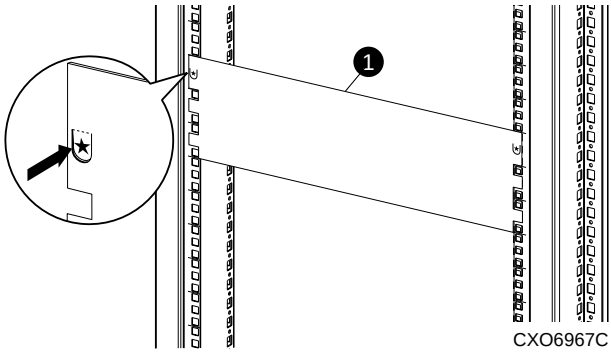

Figure 2: Rack-mounting template positioning
1. Locate the Universal Rack-Mounting Template ❶ (see Figure 2).
3. Position template against the cabinet rail-front at the desired location, matching the template hole pattern with the cabinet rail-front hole pattern (see Figure 2). Be sure the template’s front side faces you when determining front location.
NOTE: To suspend the template by itself on the rails, push out the left and right perforated tabs designated by a star (see Figure 2) and insert the perforated tabs through the desired rail hole locations.
4. To the left and right of the template-front where indicated, pencil mark cabinet rail-front (right and left) with an F (front) at each of the upper two u-spaces and an R (rear) at each of the lower two u-spaces. See Figure 2.